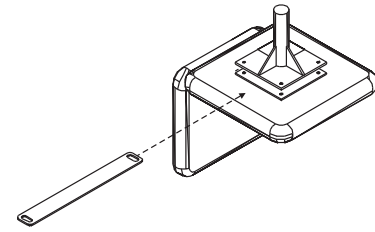

Figure 4-49
2. Loosen the screws that attaches the seat post plate to the bottom of the seat. Allow enough room to slide the anchor plate between the seat and the seat post plate. **See Figure 4-49.**